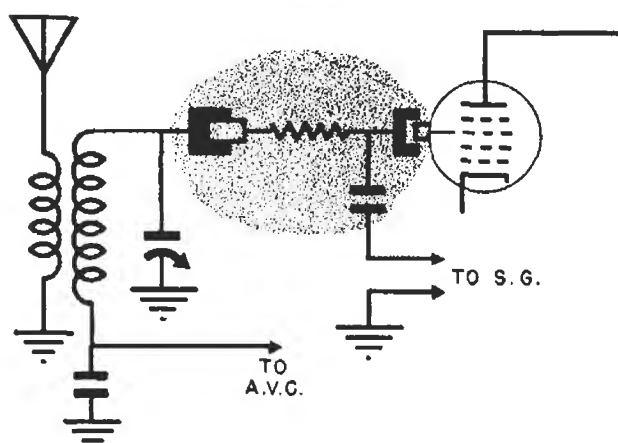

FIG. 4. An R-C coupler for the s.g.
► Another decoupling device which is occasionally used is the one shown in Fig. 4. In many instances, a signal generator is connected between the grid circuit of a tube and ground. Unless a condenser is used in series with the signal generator, the d.c. path through the attenuator will short-circuit the a.v.c. voltage supply. Also, the resonant circuit may be tuned to some frequency which will cause it to act as a partial short circuit on the output of a signal generator, thus